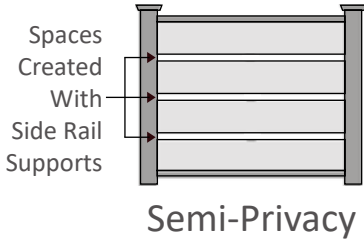

Fig. 4
- **Decorative Fence** - Use Intermediate Rail before final board. As shown in Fig. 4.
4. Slide Locking Clip into place with supplied screws and fasten. As shown in Fig. 4.